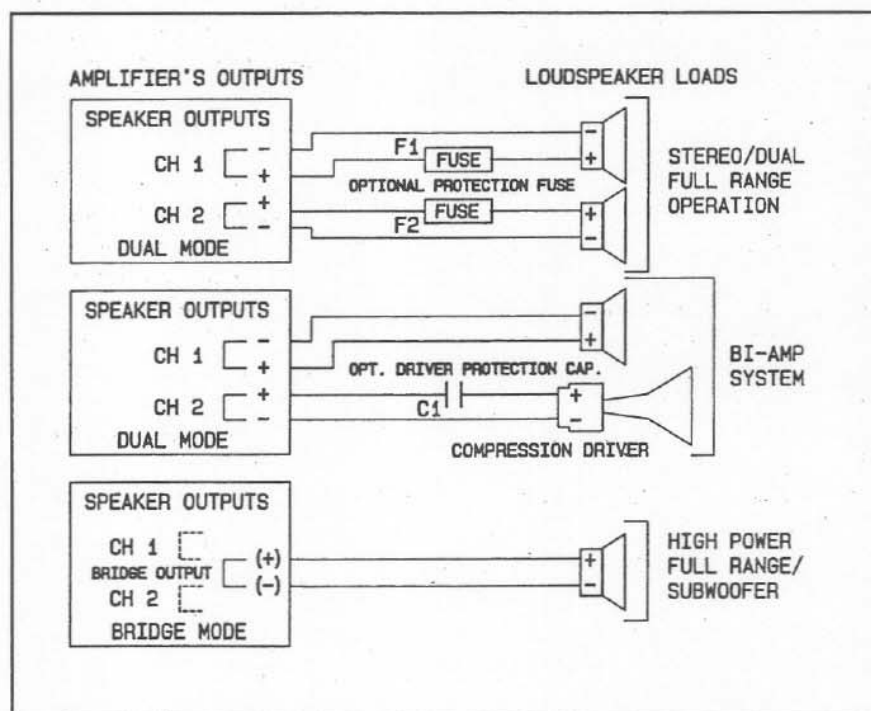

Figure 4 Typical Output Connections
Output connections are made to the four terminal barrier strip connector. Refer to Figure 4 for typical output connections.
**ZL** is the load impedance. Use 32 volt fuses if possible; they typically have the lowest internal resistance which will help minimize deterioration of the damping factor at the load. Refer to the example in Figure 4.
problems may arise in the cables between the crossover and the power amplifier, or from misadjustment of the crossover. Either of these situations could apply low frequency signals or hum to the driver and cause damage. To prevent a potential mishap, Electro-Voice recommends using a capacitor between the amplifier and the compression driver to suppress low frequencies and possible DC. Refer to the example in Figure 4.